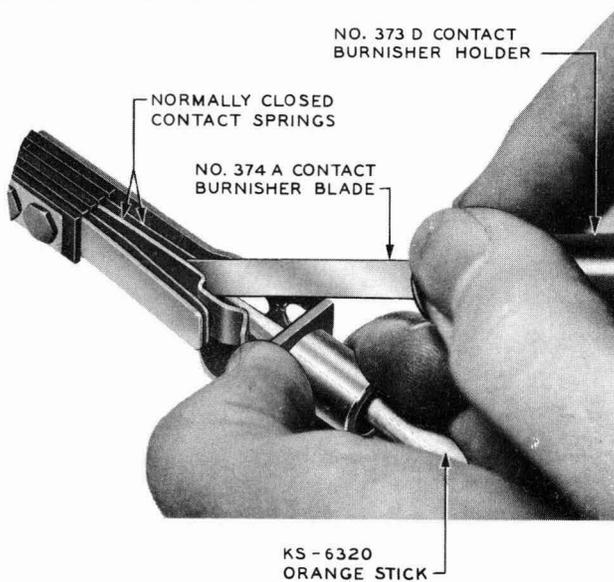

Fig. 3—Method of Inserting Burnisher Blade Between Normally Closed Contacts of Individually Mounted Jacks
4.06 To burnish normally closed contacts on keys, operate the key and place the burnisher blade between the contacts. In the case of normally closed contacts on jacks, insert a plug or open the contacts with the KS-6320 orange stick, as shown in Fig. 3, and then place the burnisher blade between the contacts. Return the key to normal or withdraw the plug or orange stick from the jack, and then burnish the contacts as covered in 4.05.